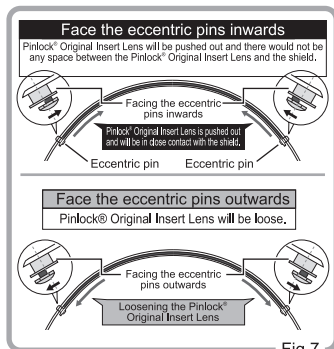

Fig.7
2. Adjust the eccentric pins by turning them with a tool. (Fig. 7)